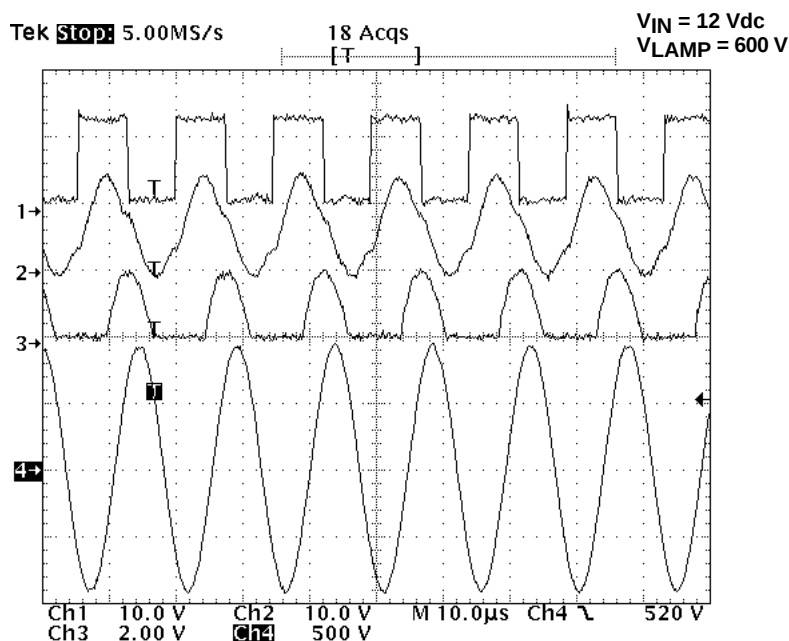
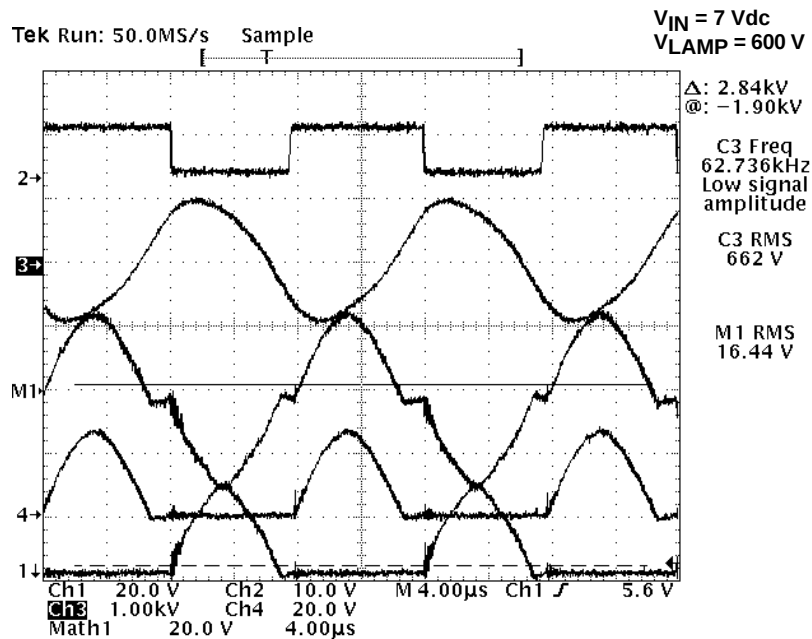

Figure 14. UCC3976 Half-Bridge Waveforms
Figure 15. UCC3977 Push-Pull Waveforms
Waveforms for the UCC3976 half-bridge circuit operated with a 12-Vdc input are shown in Figure 14. P- and N-Channel MOSFETs are driven out of phase with 50% duty cycle producing a square wave at the drains (see Figure15: trace 1). Inductor LRES and the PZT primary capacitance form a low-pass filter. The resulting in a near sinusoid across the PZT primary (trace 2). Due to the high Q of the PZT, lamp voltage (trace 4) is sinusoidal. Lamp current is sensed by the half-wave rectification circuit at RCS (trace 3). Lamp current is in phase with lamp voltage since the load is primarily resistive with some capacitance due to the reflector's proximity to the lamp. The lamp reflector should be grounded for safety reasons and in order to keep the secondary capacitance constant allowing the PZT load to be constant.
For the push-pull circuit, MOSFETs N1 and N2 are driven out of phase with 50% duty cycle at variable frequency (see Figure 15: trace 2). Inductors L1 and L2 resonate with the PZT primary capacitance, forming a half sinusoids at the drain of N1 (trace 1) and S2 (trace 4). The resulting voltage across the PZT primary is a near sinusoid (trace M1). Due to the high Q of the ceramic transformer, the lamp voltage, which is approximately 600 V in this application, is sinusoidal (trace 3). In order to achieve zero-voltage switching, each drain voltage must return to zero before the next switching cycle. This dictates that the L-C resonant frequency be greater than the switching frequency. The maximum inductance to meet these conditions can be found from equation (16):